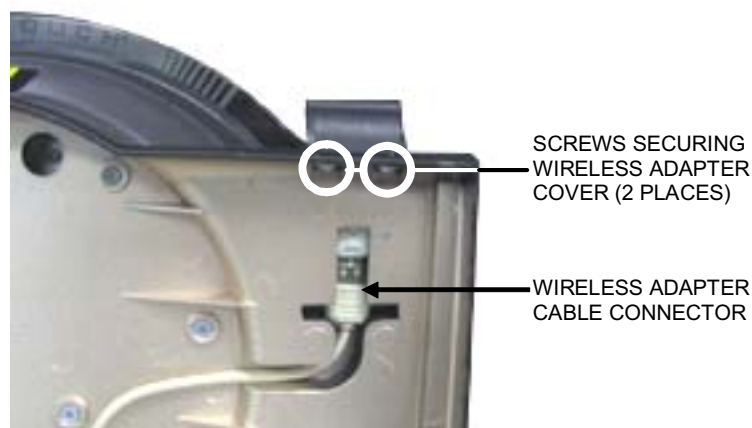

FIGURE 5 - INSIDE BEZEL OF OPEN MONITOR ASSEMBLY
8. Open the monitor assembly and remove the 2 screws securing the wireless adapter cover (see Figure 5). Remove the cover, then gently pull the wireless adapter up and out of the system. Twist the wireless adapter cable connector and slide it out of position in order to remove it from the plastic monitor assembly. When you are done with this, the wireless adapter cable should be hanging loosely from the front of the system.